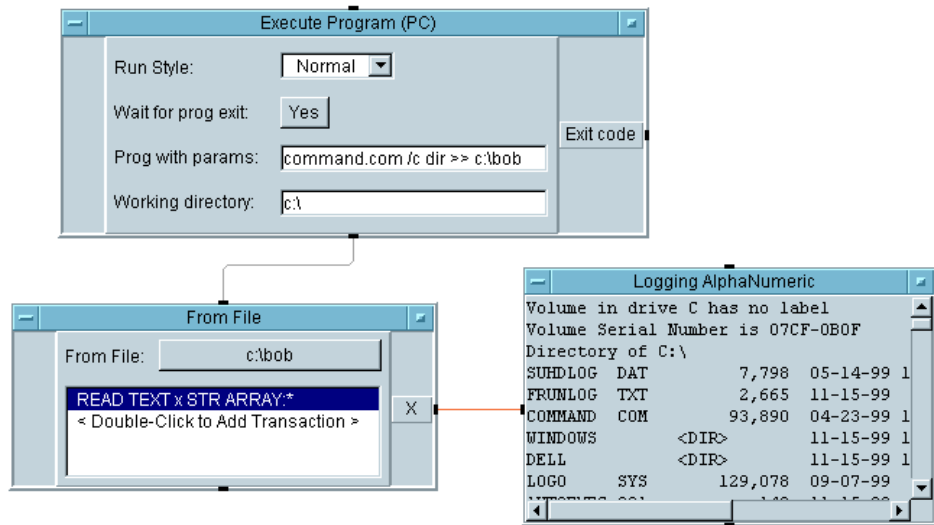

Figure 208 Listing the Files in a Directory
- c Click on the **SIZE: (10)** field to toggle it to **TO END: (*)**, then click **OK**. The transaction bar should now read: **READ TEXT x STR ARRAY:*** . This transaction will read the contents of the bob file.
- 5 Run the program. It should look like Figure 208.